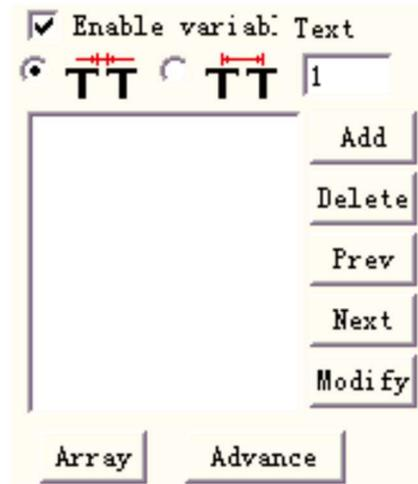

Figure 3-3 Variable Text Attributes
- ① Refers to the position coordinates and size dimensions of the text within the workspace;
- ② There is a locker icon, , in the text properties. When modifying dimensions, scaling proportionally;
- ③ After clicking on the icon, , it becomes the icon, , indicating unequal scaling when modifying the size;
- ④ The reference point  whose position coordinates are within the work area;
- ⑤ To modify any parameter in the attribute bar, you need to click, , "Apply" to modify it to the target object;
- ⑥ Fill parameters for text objects by clicking ;
- ⑦ , Refers to the font parameters of the text object;
- ⑧  , The font type of the text object;
- ⑨  , The average height of the font;
- ⑩  , Text editing box
- ⑪ After clicking/selecting  , the variable text can be enabled, and the system will display the variable text properties as shown in Figure 3-3. Variable text refers to the dynamic change of text content during the processing according to user-defined rules. For detailed introduction, please refer to page 53 of the software user manual.